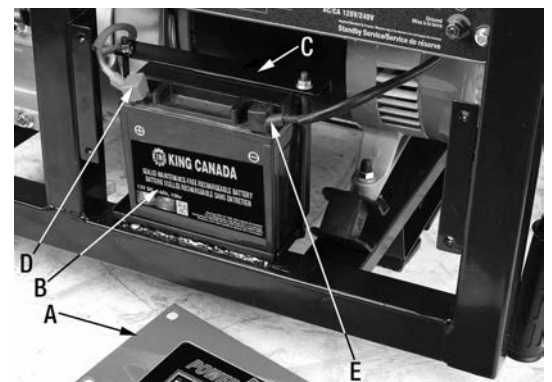

Figure 4
To install the battery, first the battery panel (A) Fig.4 must be removed by undoing the 4 flange head hex. bolts which hold it in place. Place the battery (B) into the battery tray and secure it in place using the upper retaining plate (C), fixing shafts and hex. nuts as shown. Once the battery is secure, connect the red positive (+) battery cable (D) to the positive post. Then connect the black negative (-) battery cable (E) to the negative post of the battery.
**Note:** Actual battery may appear different than the one shown in Fig.4, but the installation instructions remain the same, always connect the red positive (+) battery cable to the positive post, connect the black negative (-) battery cable to the negative post of the battery.